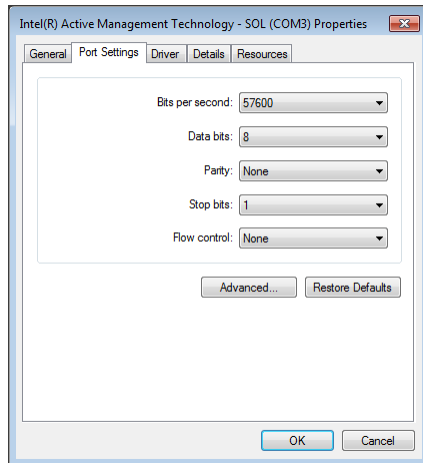

Figure 36 Device Manager COM Port Properties Panel
- Check your computer's COM port settings. Open Device Manager (Start, Control Panel, System, Device Manager). In the Device Manager list, click the arrow to the left of Ports to expand that section. Right-click the COM port you want and select Properties. In the Properties panel (Figure 36), click the Port Settings tab.